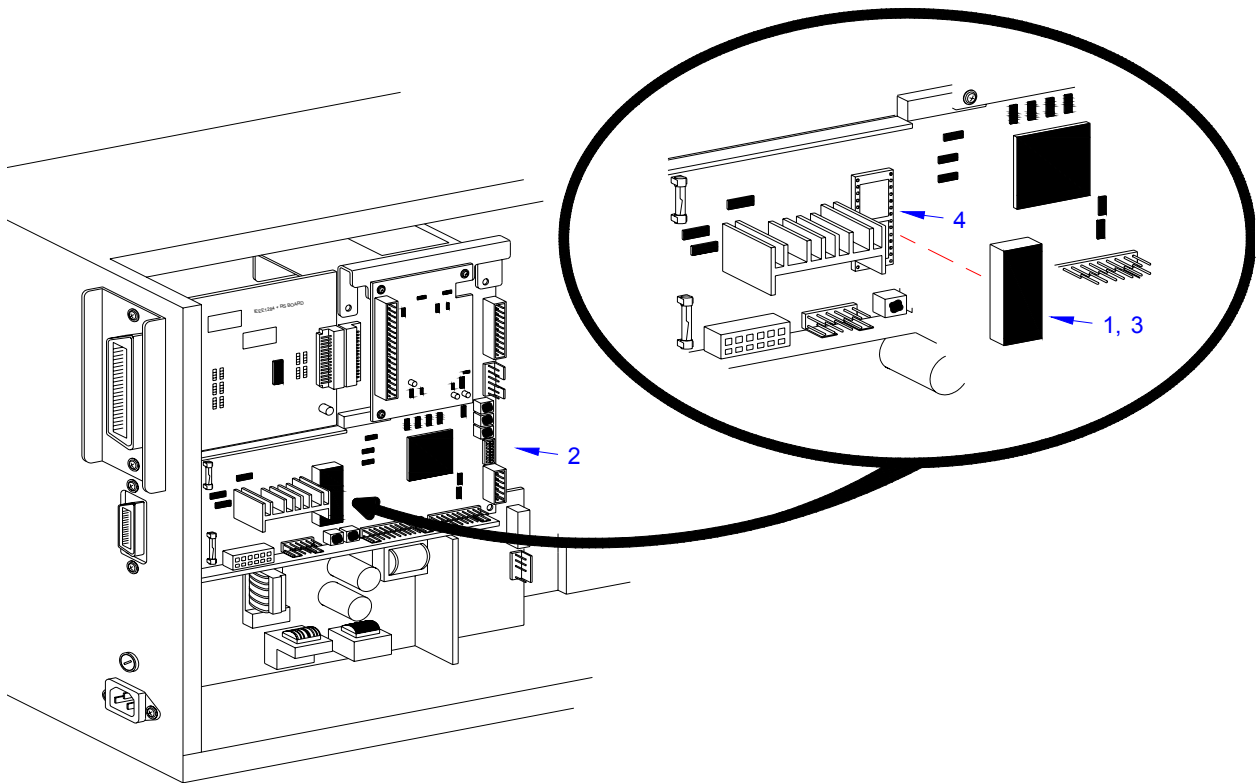

Figure 4-5, Real-Time Clock Installation
- 3 Locate and withdraw the EEPROM chip (1, Figure 4-5) from main circuit board (2).
- 4 Insert clock chip (3) into the vacant connection receptacle (4).